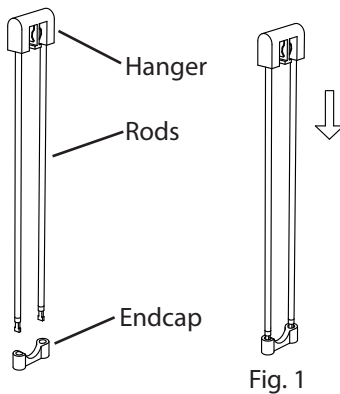

Fig. 1
1. Gently insert the two Luminaire Hanger **Rods** into the holes on the top of the Luminaire Hanger **Endcap** (Fig. 1).